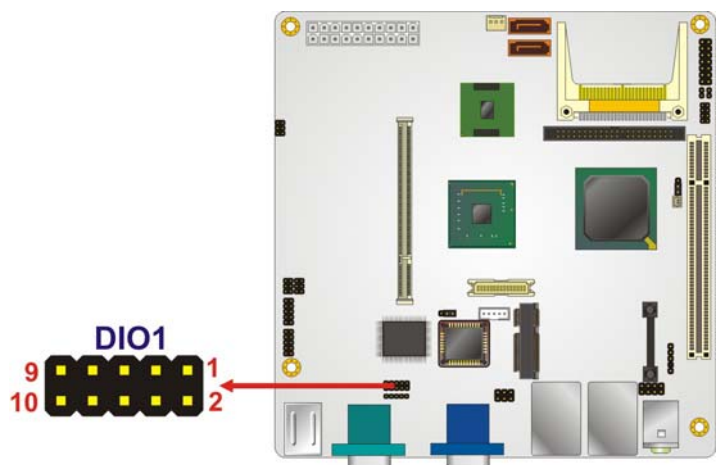

Figure 4-5: Digital I/O Connector Locations
- CN Location:** See Figure 4-5